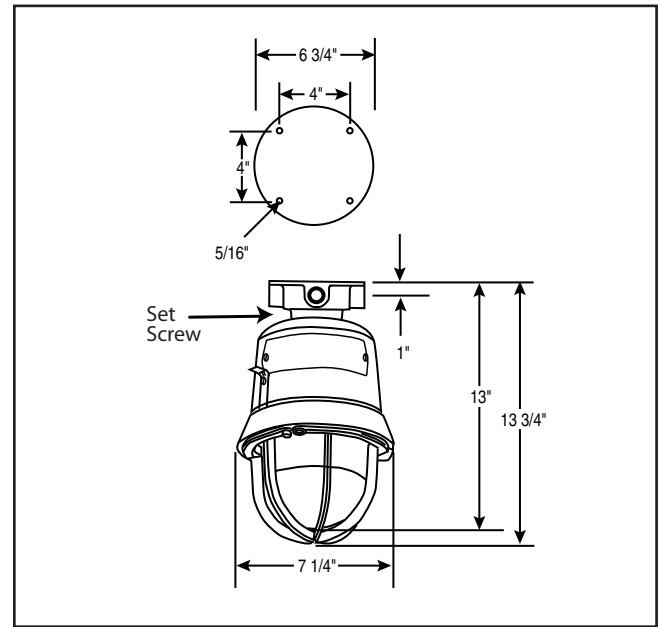
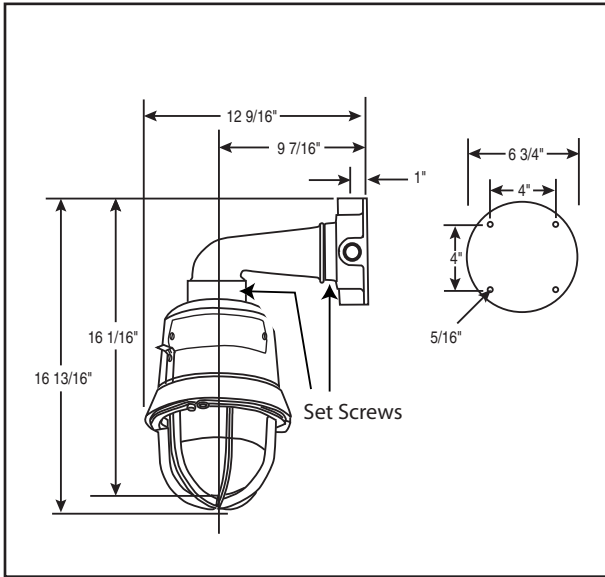
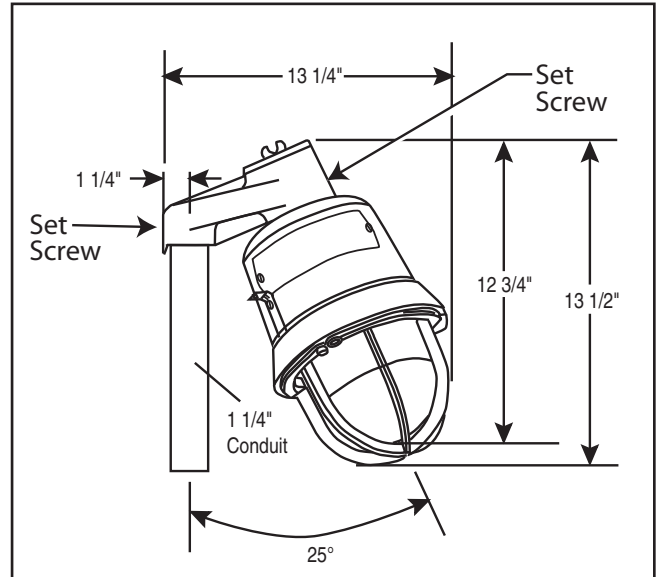
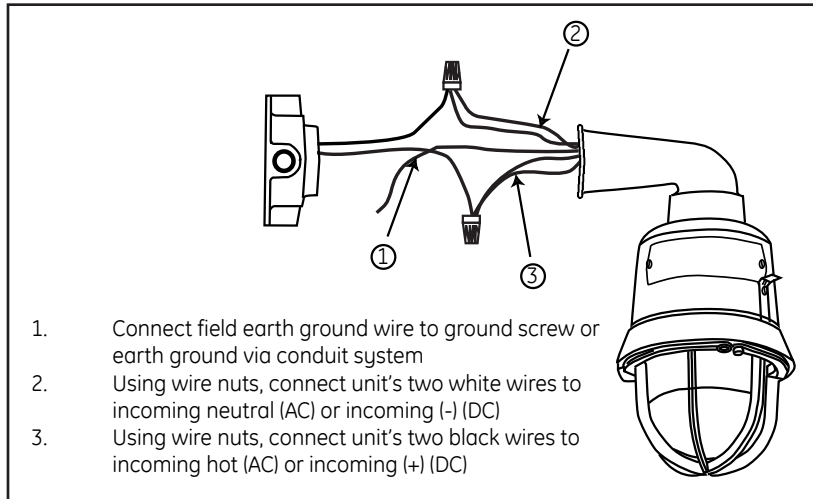

Figure 3. Detail of Ceiling Mounting
Figure 4. Detail of Wall Bracket Mounting
Figure 5. Detail of Stanchion Mounting
Figure 6. Wiring (Bracket Mount Version Shown)
- b. **Ceiling Mount Models** (Figure 3): Install the catalog number 116EX-C, ceiling/wall mounting module, using appropriate hardware (not supplied) suitable for the mounting surface. Make electrical connections in accordance with Figure 6. Refer to Table 2 for required supply wire temperature ratings. Install main housing to ceiling mount module. Tighten the set-screw to secure the 116EXMLED main housing to the ceiling mount module.
- c. **Bracket Mount Models** (Figure 4): Install the catalog number 116EX-C ceiling/wall mounting module using appropriate hardware (not supplied) for the mounting surface. Connect field earth ground wire to ground screw or earth ground via conduit system. Install the catalog number 116EX-B wall mounting elbow to the 116EXMLED main housing (feed the units wiring through the 116EX-B elbow). Tighten the set-screw to secure the 116EX-B elbow to the main housing. Make electrical connections in accordance with Figure 6. Refer to Table 2 for required supply wire temperature ratings. Install main housing and 116EX-B elbow subassembly to ceiling mount module. Tighten the set-screw to secure the 116EX-B elbow to the ceiling mount module.
- d. **Stanchion Mount Models** (Figure 5): Install the catalog number 116EX-S, stanchion mount module to the main housing and tighten set-screw. Mount the 116EX-S to the 1-1/4" conduit, tighten set-screw. Ensure conduit is connected to the appropriate junction box. Install the unit on the conduit. Make electrical connections in accordance with Figure 6. Refer to Table 2 for required supply wire temperature ratings.